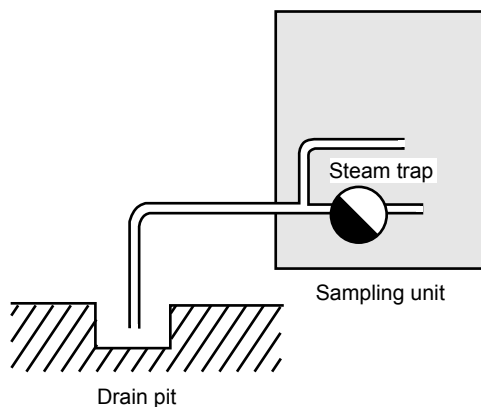

Figure 3.18 Piping at Steam Trap Discharge Outlet
- (2) The steam trap discharge outlet should be open to the atmosphere (see Figure 3.18).